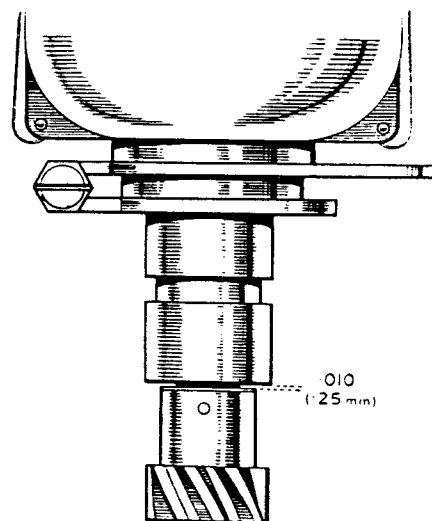

FIG. 18
8. *TRACTOR TYPE TE-20 ONLY.* Remove the driving gear which is pinned to the shaft (See Fig. 18).
### Replacement of Driving Gear and Distributor Shaft TE-20 only, Fig. 18.
3. *TRACTORS TYPE TE-20 ONLY.* Replace the driving gear and pin in position (See "Replacement of Driving Gear" Fig. 18).